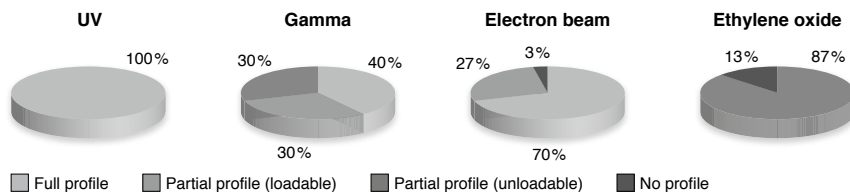

Figure 1: According to Shaw *et al.*, 2008, Comparison of the effects of sterilization techniques on subsequent DNA profiling. Int J Legal Med 122: 29-33.
NucleoSpin® Tissue is certified as forensic quality product. Consumables used in forensics need to be treated carefully to prevent DNA contamination. MACHEREY-NAGEL therefore has a stringently controlled production process to avoid DNA contamination of consumables. Further, MACHEREY-NAGEL uses ethylene oxide (EO) treatment to remove amplifiable DNA, which might still be introduced during the manufacturing process. MACHEREY-NAGEL products carrying the forensic quality seal, contain plastic materials that are EO treated. This means, DNA of any kind, which might still be introduced into plastic consumables during the production process, is inactivated by means of the treatment with ethylene oxide, in order to prevent the generation of accidental human profile by PCR amplification. Ethylene oxide treatment has been shown to be the method of choice to prevent DNA profiles due to DNA contamination (Shaw *et al.* 2008; Figure 1).